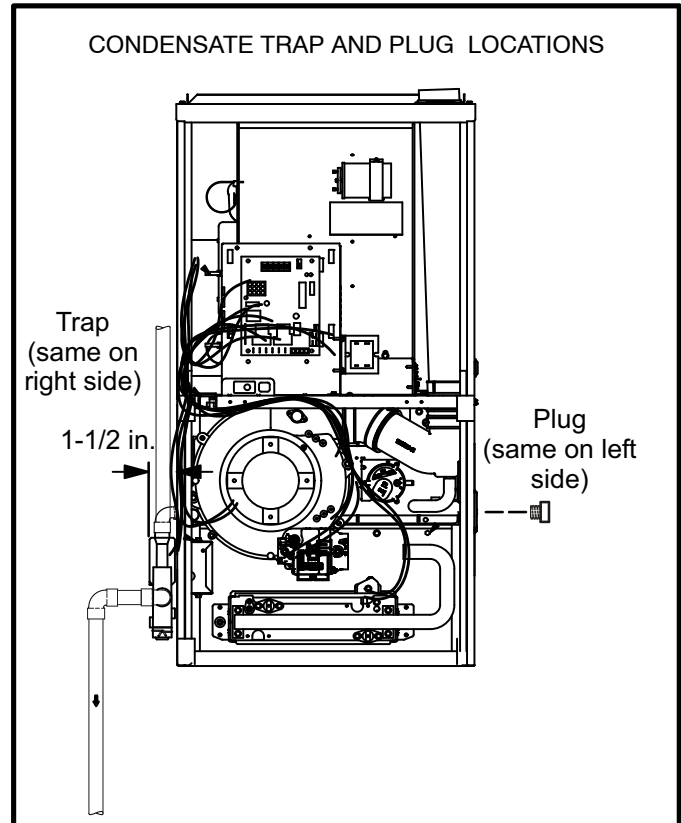

FIGURE 41
This unit is designed for either right- or left-side exit of condensate piping. Refer to figures 41 and 42 for condensate trap locations.
- 2 - Use a large flat head screw driver or a 1/2" drive socket extension and remove plug (figure 41) from the cold end header box at the appropriate location on the side of the unit. Install provided 3/4 NPT street elbow fitting into cold end header box. Use Teflon tape or appropriate pipe dope.